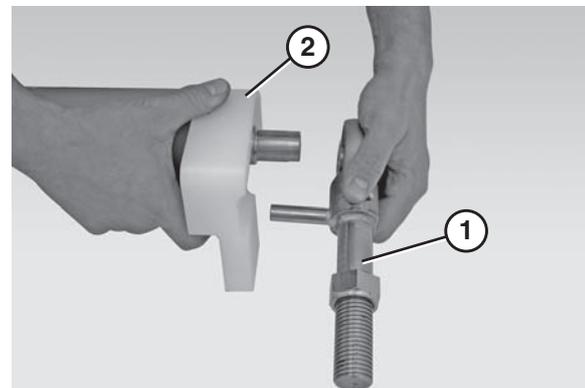

Figure 68
- Remove the bearing shafts (Figure 68, item 1) and both pinch guards (Figure 68, item 2).